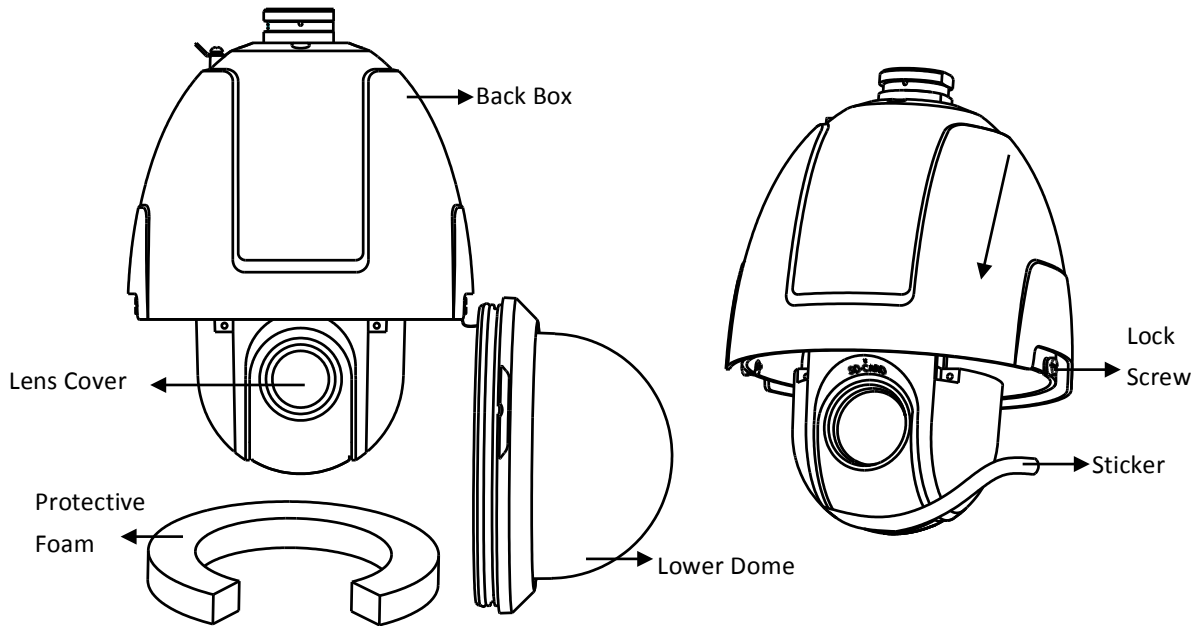

Figure 1-2 Remove the Lower Dome
- 1) Loosen the two lock screws on the both side of the speed dome. Pull the lower dome to separate it from the back box as shown in Figure 1-2.